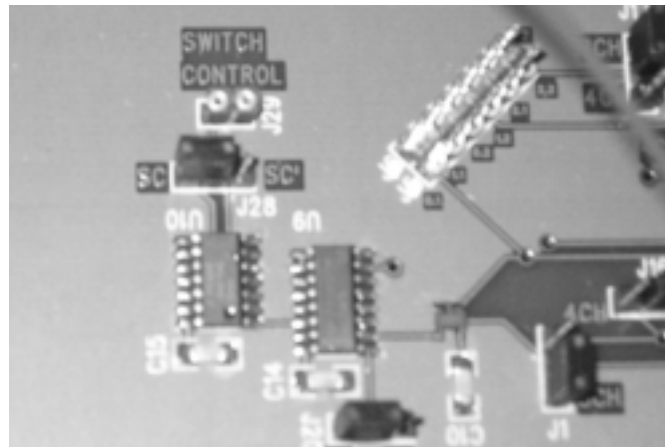

Figure 15: Photo illustrating the analog switch connection to be made on the Demultiplexer board.
2. Now we need to connect the analog switch control between the Demultiplexer boards. The connections to be made are shown in Figures 15 to 16.